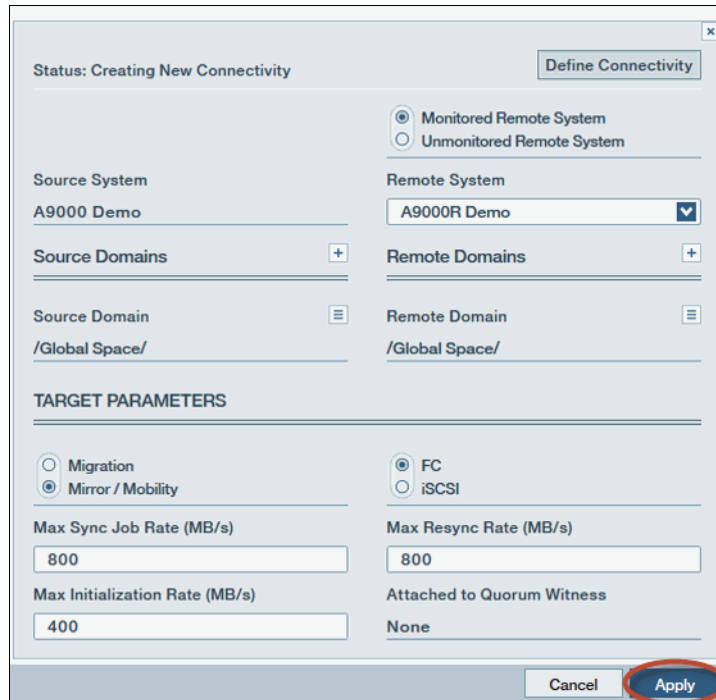

Figure 3-20 Click Apply to create Target
The initialization rate, sync job rate, and resynchronization rate are specified for each mirroring target by using the XCLI `target_config_sync_rates` command or through the Hyper-Scale Manager, as shown in Figure 3-20 on page 57. These rates are used in order to prevent a situation where synchronization utilizes too much of the system's or of the communication line's resources.
4. Click **Apply**, as shown in Figure 3-20, to create the new Target.